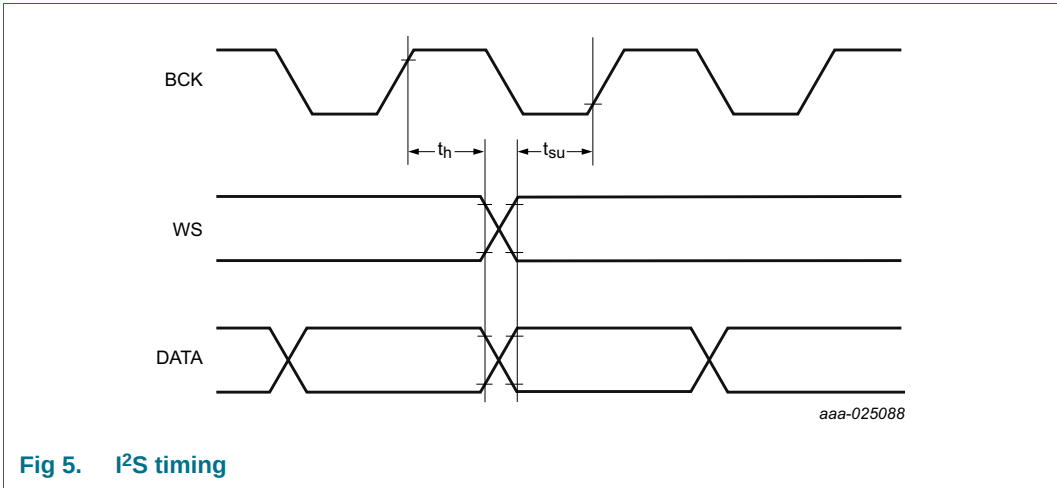

Fig 5. I2S timing
**Table 11.** I2S bus interface characteristics; see Figure 5